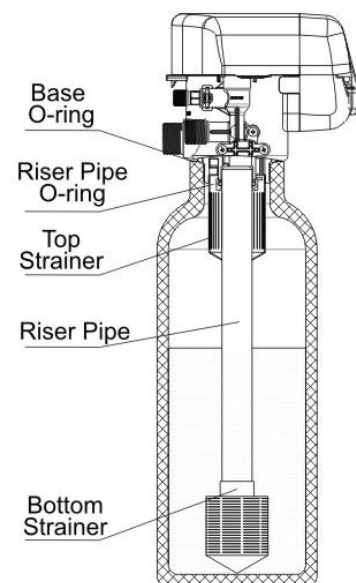

Figure 1-1
- * As Figure 1-1 shows; insert a 32mm riser pipe with bottom basket into the center of the mineral tank. If pipe is higher than the top of tank mark it, remove from tank, and cut. Take care to keep foreign material out of mineral tank.